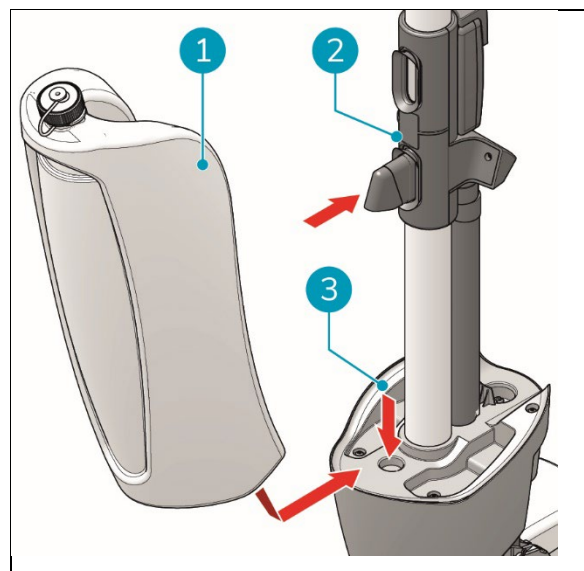

Figure 12
1. Put the bottom of the recovery tank (Figure 12, pos. 1) on the front of the i-mop[®] XL Pro (Figure 12, pos. 3).
2. Push the top of the tank into place until you hear a 'click' sound, the magnet (Figure 12, pos. 2) will lock the recovery tank into place.